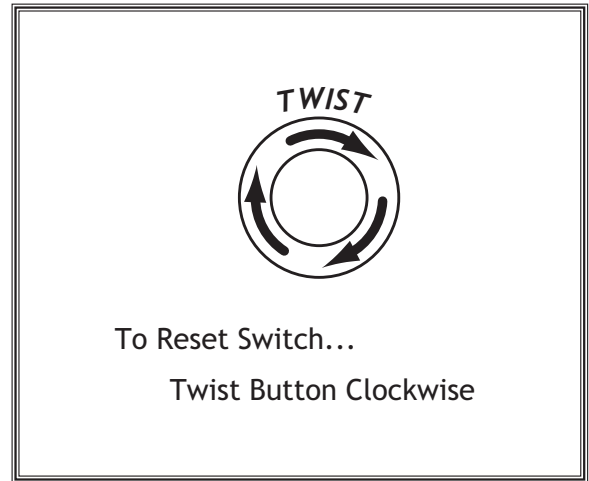

Figure 14. Resetting the switch.
6. Push the emergency stop button in, then twist it clockwise so it pops out. When the emergency stop button pops out, the switch is reset and ready for operation (see **Figure 14**).